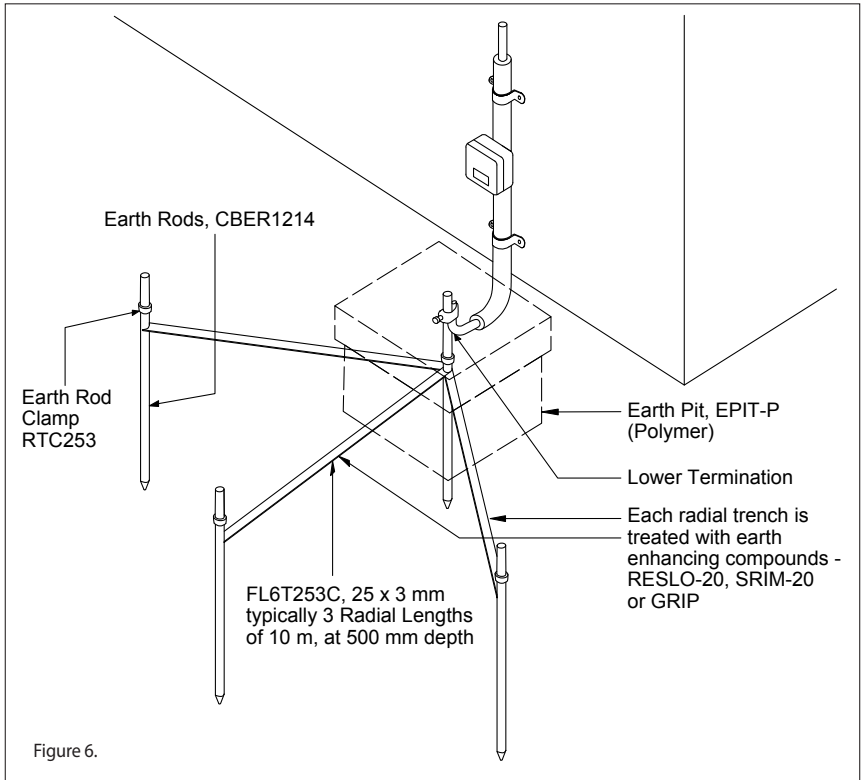

Figure 6.
For standalone Guardian Plus installations, LPI recommends the installation of a radial lightning earth, as shown in Figure 6.
- An earth pit should be installed where the end of the downconductor terminates to the lightning earth [see Figure 6]. The earth pit provides an access point for disconnection and future testing of the earthing system